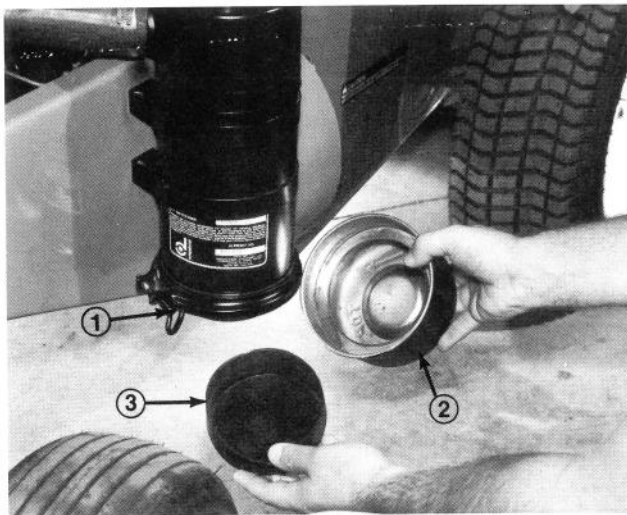

Figure 35
1. Loosen thumb screw until dust cup and baffle can be removed (Fig. 35). Separate dust cup and baffle (Fig. 35).